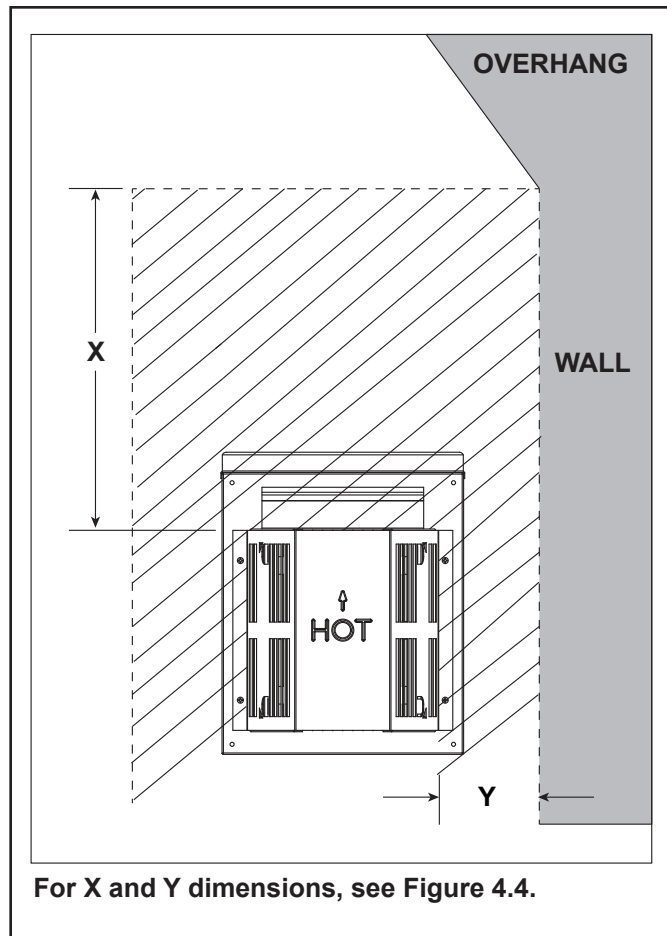

Figure 4.4 Measure Horizontal and Vertical Termination Clearance to Trapezoid Portion of Cap
Minimum height requirements for an exterior chase on a top-vented appliance are shown in Figure 3.11. Reference Figure 4.4 for additional clearances.
- Measure horizontal and vertical termination cap clearances as noted in Figure 4.3 and Figure 4.4.